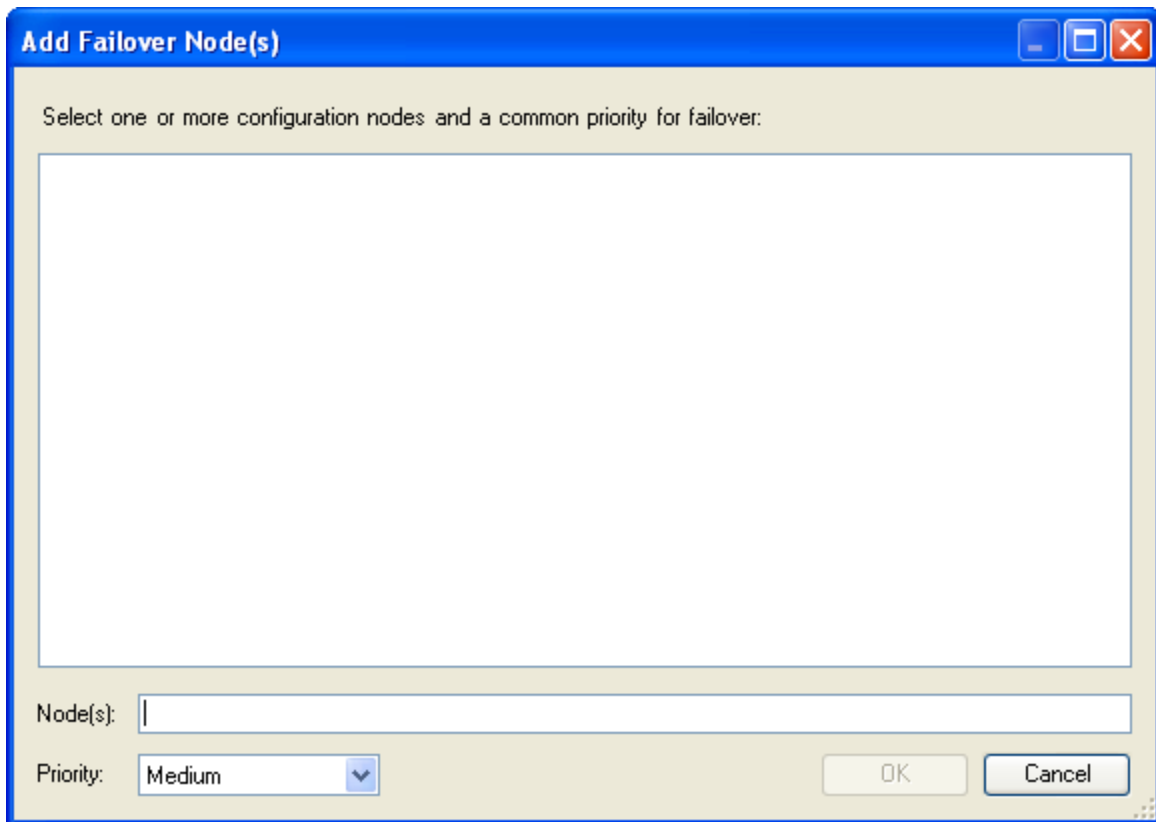

Figure 39 - Add Failover Node(s) Window
Add Failover Node(s)	Select this button to access the Add Failover Nodes(s) window (Figure 39) which allows you to define one or more Failover nodes and assign a priority to them. After defining the list of nodes, they will appear listed in the Failover Nodes section of the New Redundancy window. Note: Once you have added a node, you can make changes to it, or delete it, or change its order within the list.
- b. The **Add Failover Node(s)** window (Figure 39) appears.